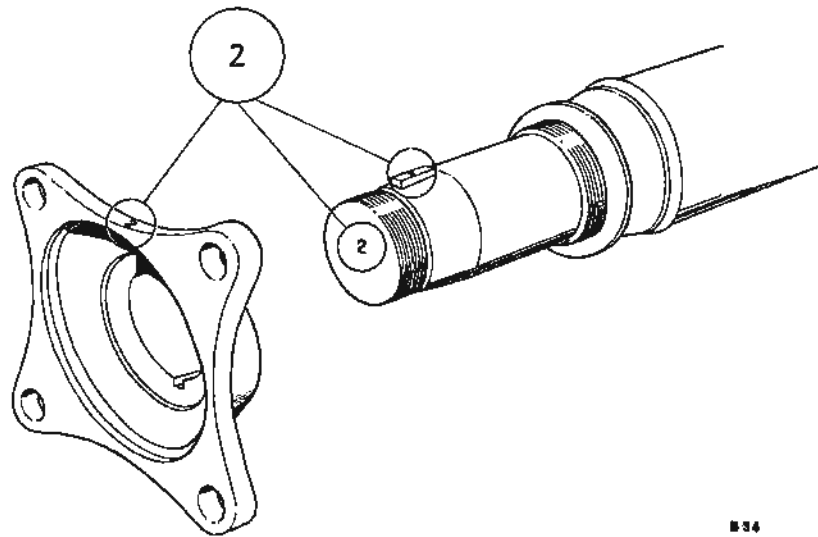

Fig. F3 Position of correlation marks on the front propeller shaft
Correlation marks (2) are stamped on the rear flange of the front shaft, the rear end of the front shaft and on one of the Woodruff keys which locate the flange on the shaft (see Fig. F3).
To remove the centre ball bearing, the flange must be unlocked and pressed or drawn from the keyed, tapered end of the shaft. Ensure that correlation marks (2) are stamped on the end of the shaft, the flange and the Woodruff key, as shown in Figure F3. Remove both Woodruff keys from the shaft and the spring-loaded washer from the grease retainer.